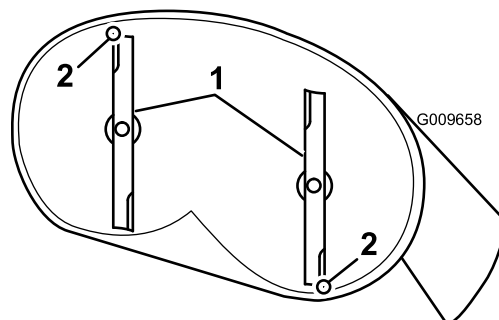

Figure 54
4. Carefully rotate the blades so they are facing front to rear (Figure 54).
5. Measure from the tip of the front blade to the flat surface and the tip of the rear blade to the flat surface (Figure 54). If the front blade tip is not 1/16-5/16 inch (1.6-7.9 mm) lower than the rear blade tip, adjust the front locknut.
8. After adjustment, check the front-to-rear slope again. Continue adjusting the nut until the front blade tip is 1/16-5/16 inch (1.6-7.9 mm) lower than the rear blade tip (Figure 54).